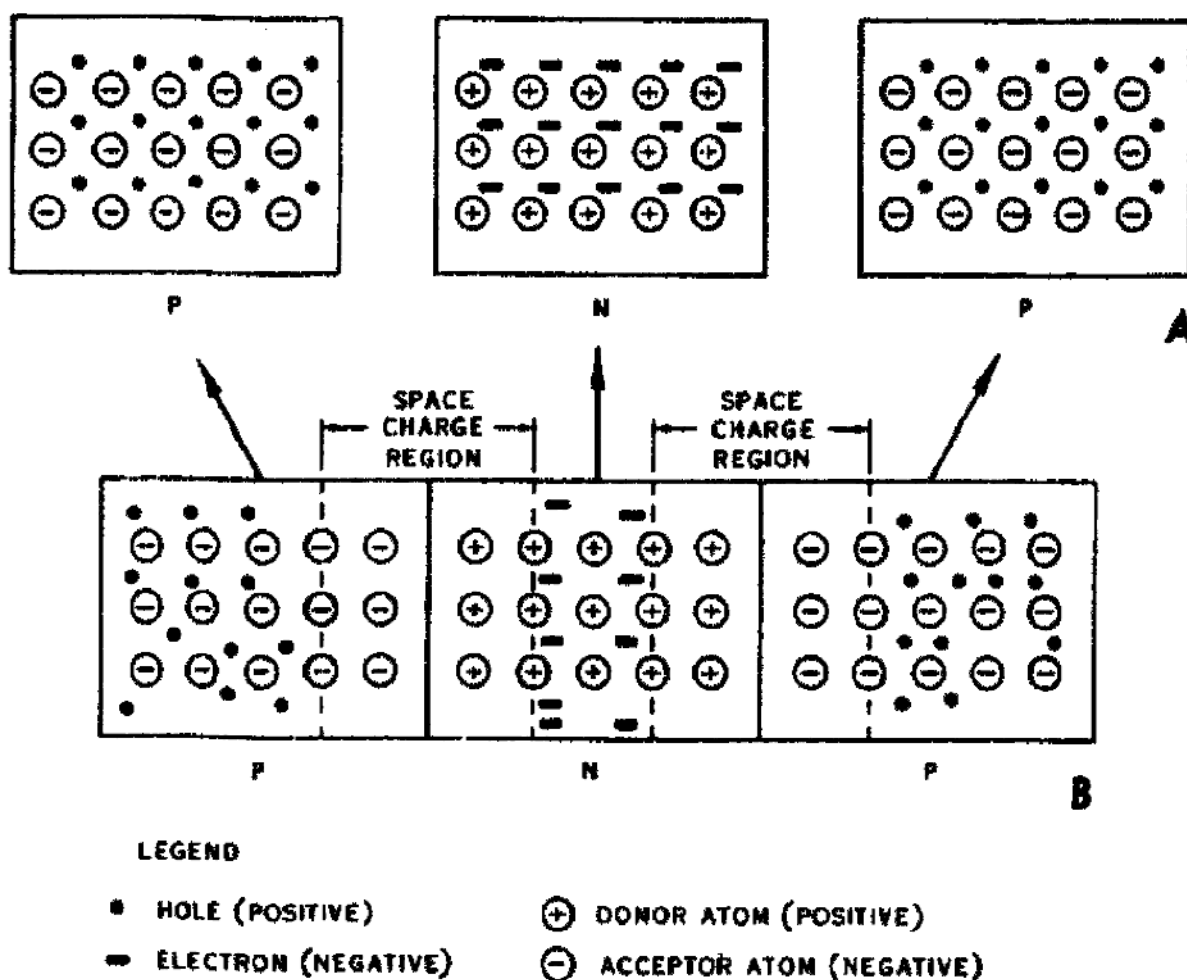

Figure 113. Two sections of P-type germanium and one section of N-type germanium.
19. To form two P-N junctions, three sections of germanium are required. Figure 113 shows the three sections separated. When the three sections are combined a P-N-P transistor is formed, and each section, like each element in a vacuum tube, has a specific name: emitter, base, and collector. The base is located between the emitter and collector, as the grid in a triode vacuum tube is located between the plate and cathode.